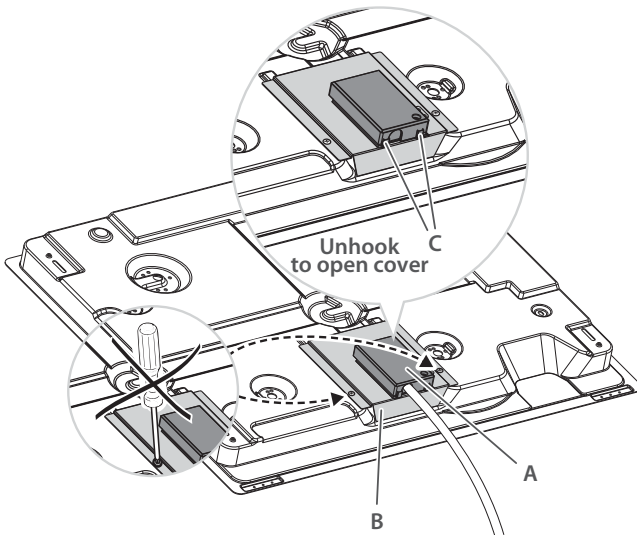

Fig. 15 Connecting the power supply cable
- 2 Unhook the terminal board cover by inserting a screwdriver into the two hooks **C** (fig. 15).